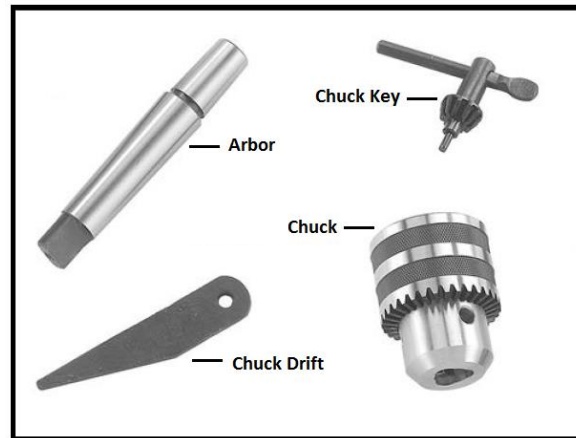

Figure 8 - Chuck components
5. With the chuck jaws fully retracted, arbor and chuck upward with a hammer on a wood block or a soft hammer to fully seat the arbor and the chuck. The Seating arbor and chuck into spindle (right) shown in **Figure 8**.